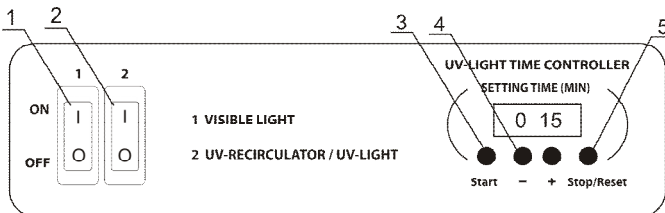

Fig.1. Control Panel
- 4.2.1. Turn ON switch **2** (Fig.1/2). This automatically turns on the UV recirculator with the hidden UV lamp and activates the timer of open UV lamp. The UV recirculator will operate all the time until switch **2** is turned OFF.
- 4.2.2. Use the timer **+** and **-** keys (Fig.1/4) to set the time (UV-LIGHT TIME CONTROLLER) of direct UV light exposition of the working place:
- 4.2.3. Press the **Start** key (Fig.1/3), the UV lamp will be turned on automatically and the timer will start counting up the exposition time. Timer indicator shows actual time: till 1 hour — in minutes and seconds (mm:ss), after 1 hour —in hours and minutes (hh:mm).
- 4.2.4. The open UV lamp can be switched off by pressing the **Stop/Reset** key (Fig.1/5). The set time of exposition will be saved in the memory. The set time won't be saved after the complete switching off the unit.
- 4.3.1. Turn ON switch **1** (Fig.1/1) for lighting of the working place (this turns ON the Luminescent (Visible light) lamp).